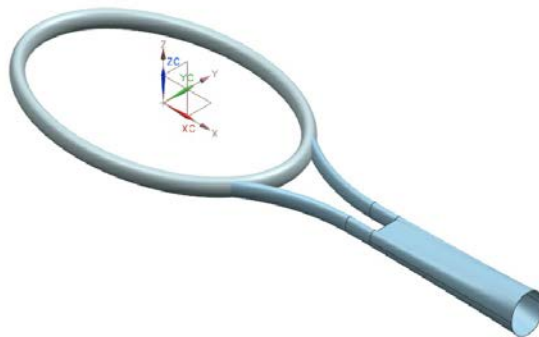

Figure 10-123 The surface model after mirroring the studio surface
1. Mirror the studio surface using the XC-YC plane as the mirror plane. The surface model after mirroring the studio surface is shown in Figure 10-123.